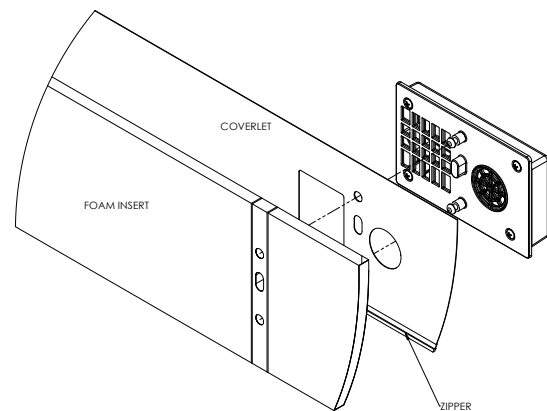

Figure 1
- b. Align the pegs on the control unit through the holes in the overlay (Figure 1).